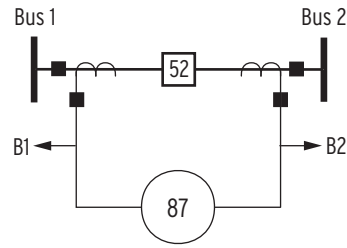

Figure 15 Two CTs Configured With a Differential Element Across the Breaker
- Two CTs configured with a differential element across the breaker (Figure 15)